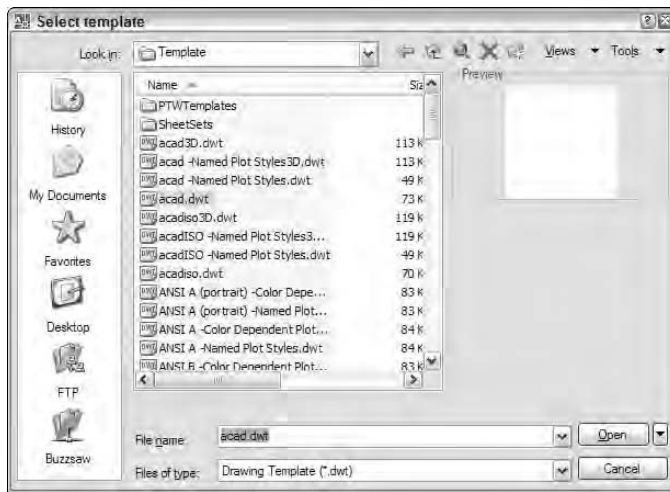

Figure 3-2:
3. Select the `acad.dwt` [`acadiso.dwt`] template, as shown in Figure 3-2, and click Open. (For AutoCAD LT, select `acadlt.dwt` [`acadltsiso.dwt`].)